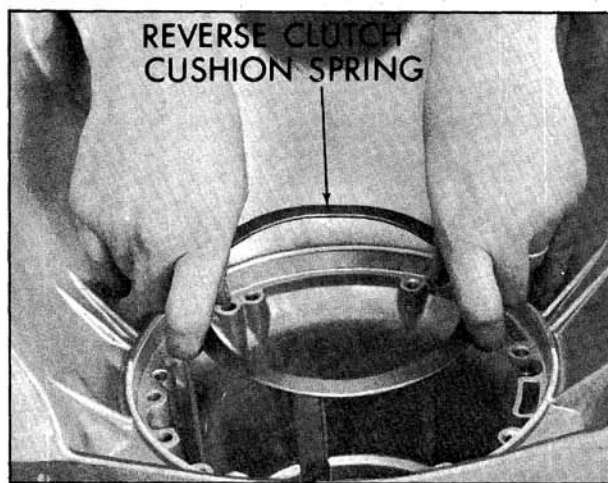

Fig. 6-491 Installing Cushion Spring
5. Install reverse clutch cushion spring. Install the cushion spring with the dished or concave side up. (Fig. 6-491)